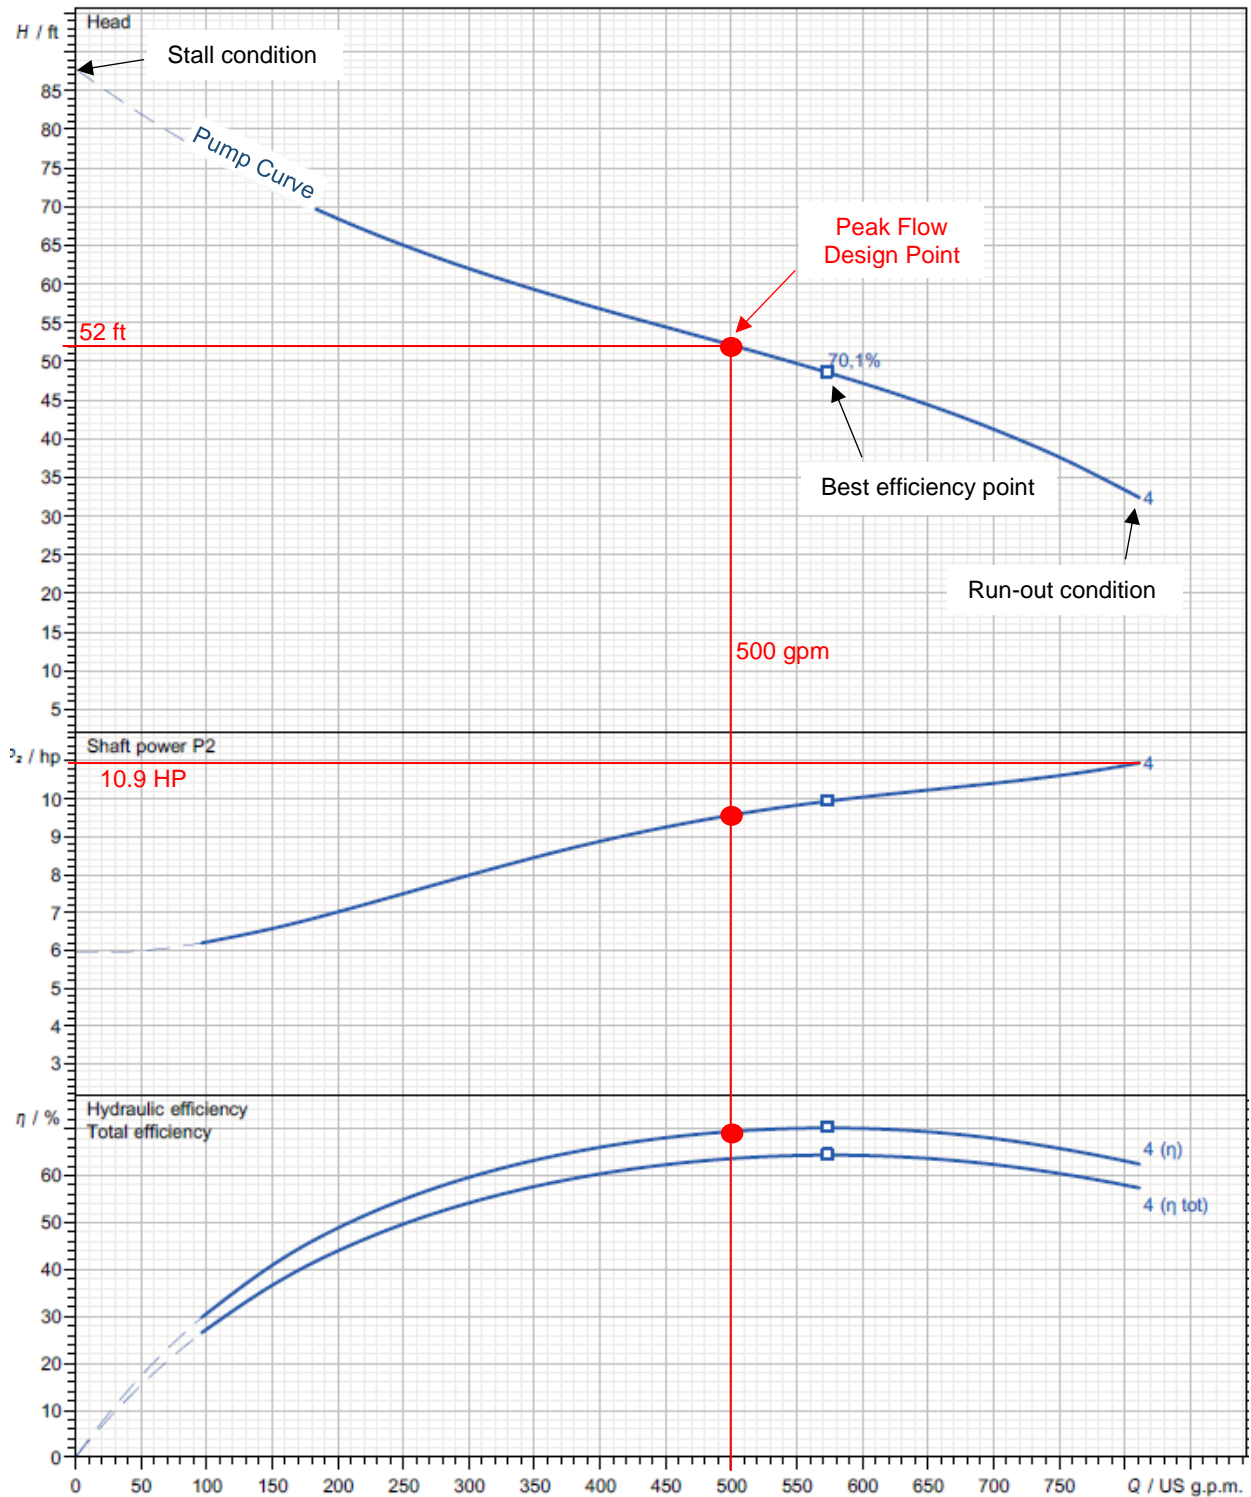
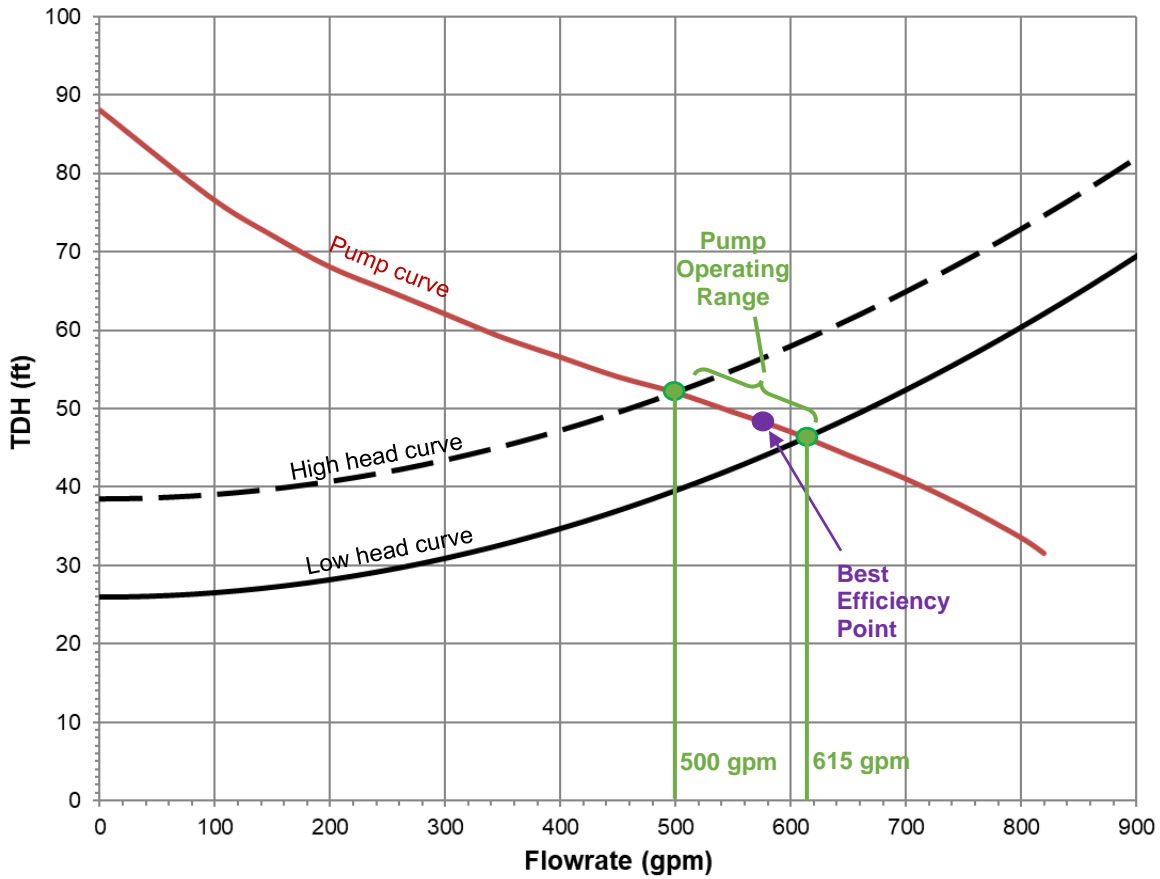

Figure 24: Manufacturer's pump curve for Problem 6, with design conditions in red.
Figure 25: Plot of the pump curve and the system curves for Problem 6, showing the BEP within the pump design operating range of 500 to 615 gpm.
Manufacturer pump curves typically include a power curve that shows the shaft power (HP or kW) required at all operating points. See the center region of Figure 24 for an example. The greatest power value in the operating region is used for motor sizing.
Ivy obtained the manufacturer pump curve, shown in Figure 24. She plotted the pump curve and the system curves together in Figure 25. Based on the intersections of the curves, the normal operating range would be 500 to 615 gpm, with the best efficiency point (BEP) in that range at 570 gpm.
Ivy reviewed the shaft power (HP) curve in the center chart of Figure 24. She identified the greatest power is 10.9 HP at the far right of the curve. To determine the motor HP, she multiplied this line shaft HP by the service factor, and divided by a typical motor efficiency of around 90%: